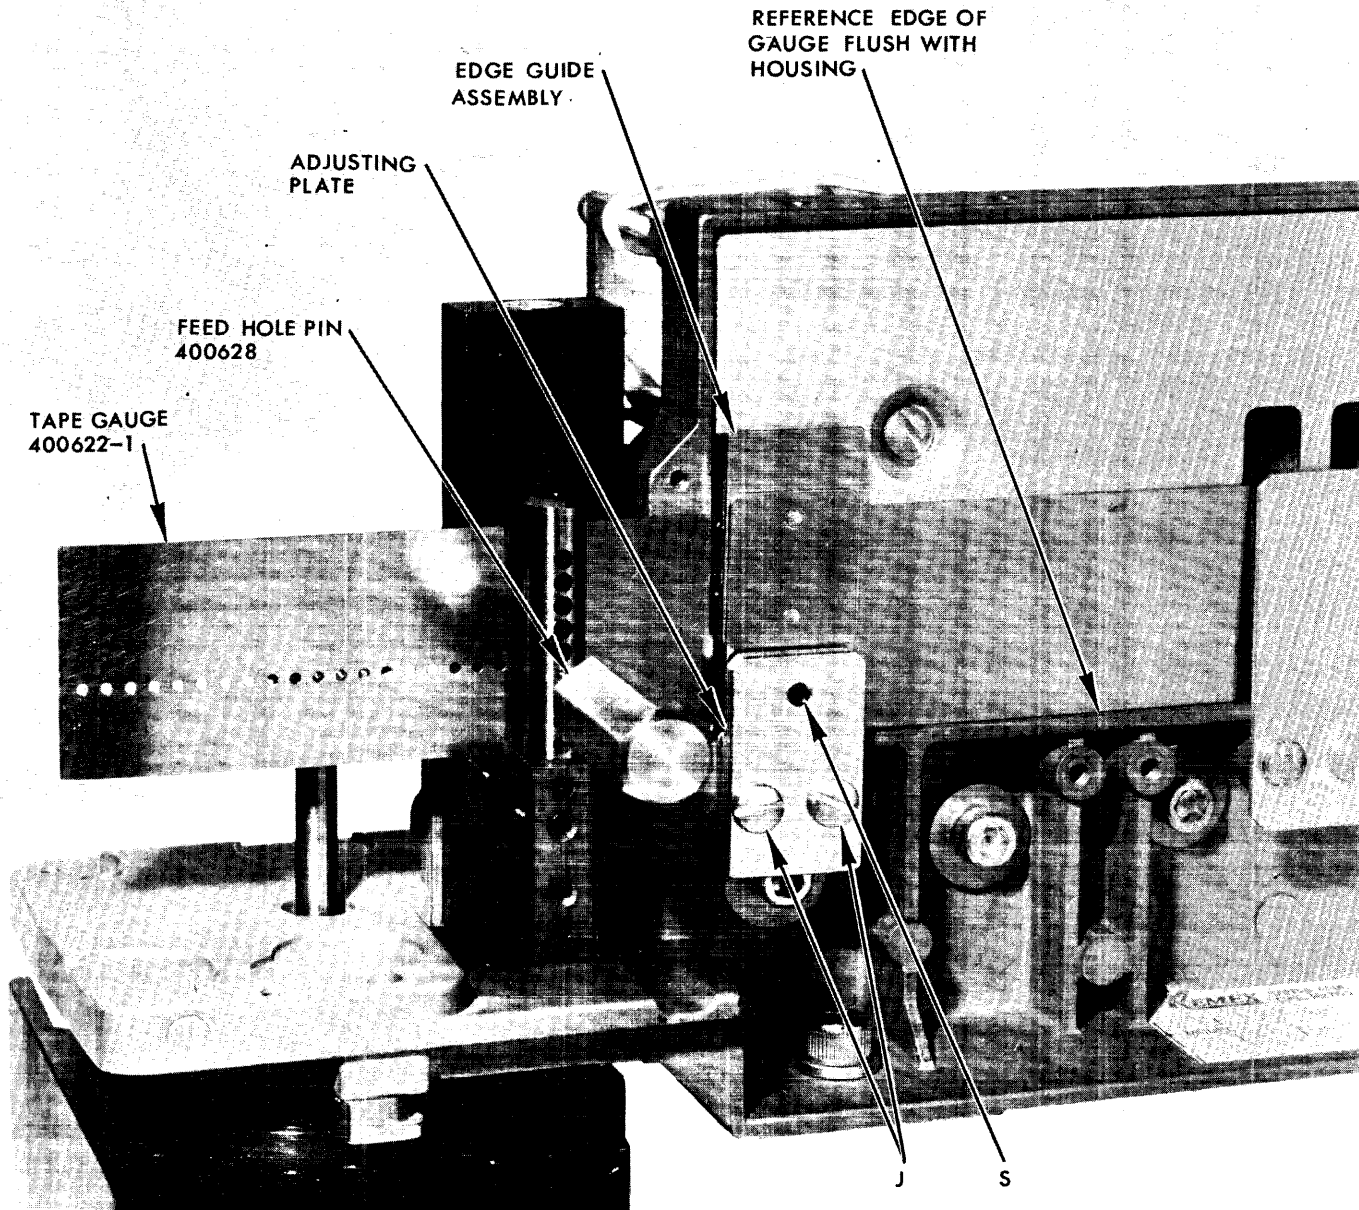

Figure 6-1. Tape Guide and Edge Guide Assembly Alignment.
- a. Remove the 4-40-1/8" socket head screw (J) which holds the adjusting plate to the edge guide assembly. Screws labeled (J) in Figure 6-1 are the same as labeled (J) in Figure 7-1.
- c. Insert tape gauge 400622-1 (8-track) or 400622-2 (6-track) so that the reference edge of the gauge is flush against the reference edge of the perforator housing. Refer to Figure 6-1.
- d. Position the edge guide squarely along the edge of the tape gauge so that the edges are parallel and the gauge just moves through without any play. Tighten the two screws (J).